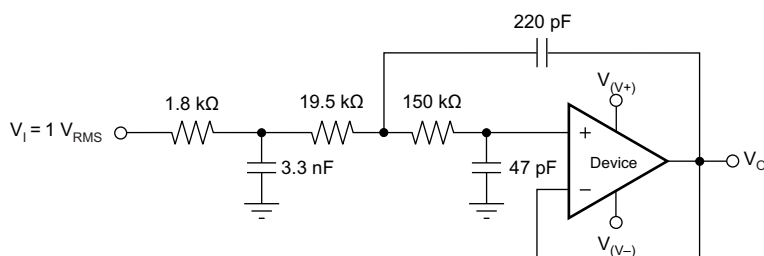

Figure 37. OPAx355 Configured as a Three-Pole, 20-kHz, Sallen-Key Filter
3. Using a noninverting filter topology, such as the Sallen-Key (see Figure 37).